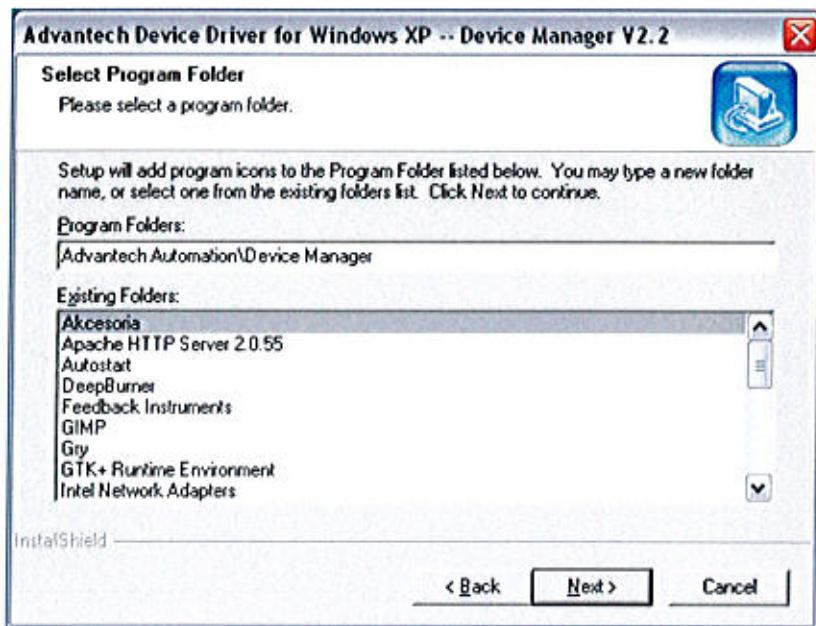

Figure 10 Program Folder Selection Window
- Select the Typical Setup and press 'Next'. The Program Folder information window will appear (Figure 10).